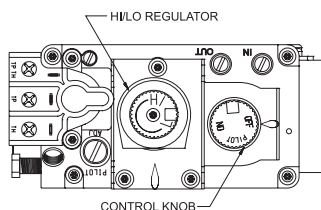

Figure 73
**NOTICE:** The gas control valve allows you to increase or decrease the height of the main burner flame. The control valve has a pressure regulator with a knob as shown in **Figure 73**. Rotate the knob clockwise to "HI" to increase the flame height and counterclockwise to "LO" to decrease the flame height.